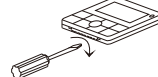

Fig.2
2. As shown in Fig.2, use a flathead screw driver to pry the bottom groove of the wire controller lightly (too much force would damage circuit board), pry rotationally to open the back cover.